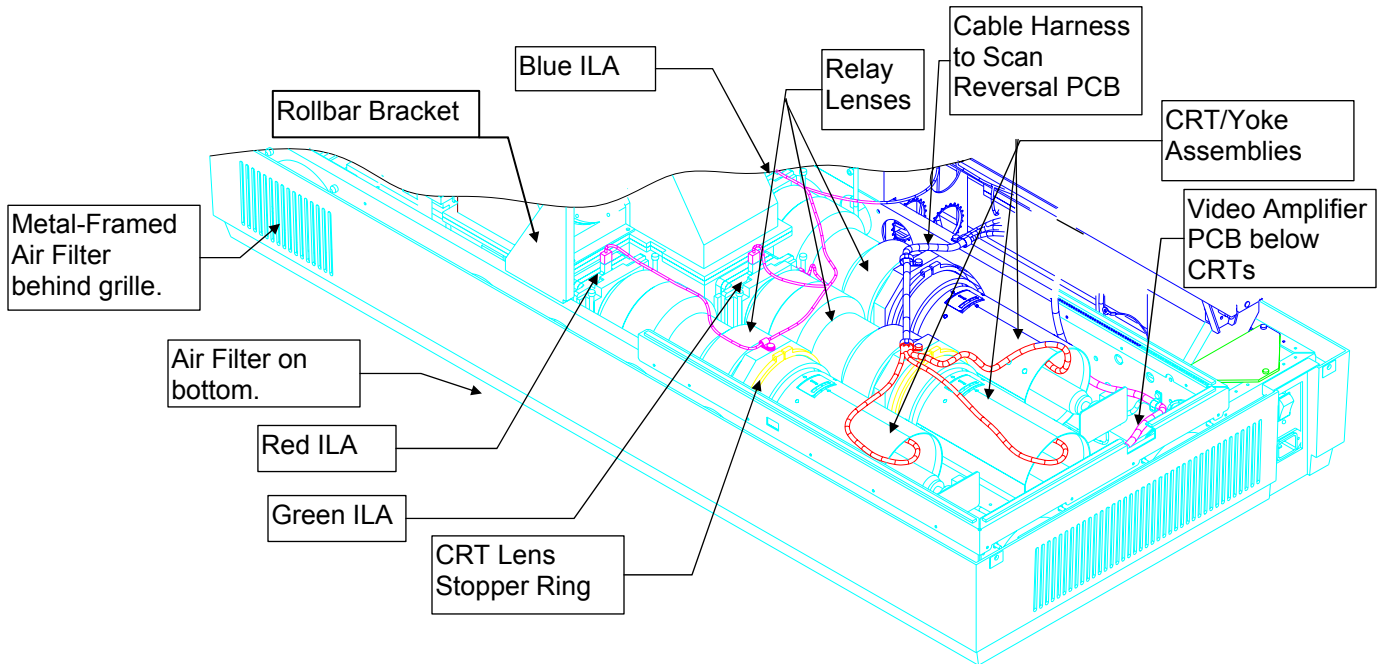

Figure 4-11. View of CRTs, Relay lenses and ILA[®] Assemblies.
Three CRT/Yoke Assemblies are located in the CRT Assembly area below the card cage. To remove a CRT/Yoke Assembly (refer to Figure 4-11):
3. Disconnect the connector on the top of the appropriate ILA[®] assembly. (Figure 4-11).
To remove a Relay Lens (*refer to Figure 4-11*):
4. Loosen the CRT Lens Stopper Ring (the thin collar just in front of the CRT Holder knurled ring-*Figure 4-11*) and slide it off the back of the Relay Lens.